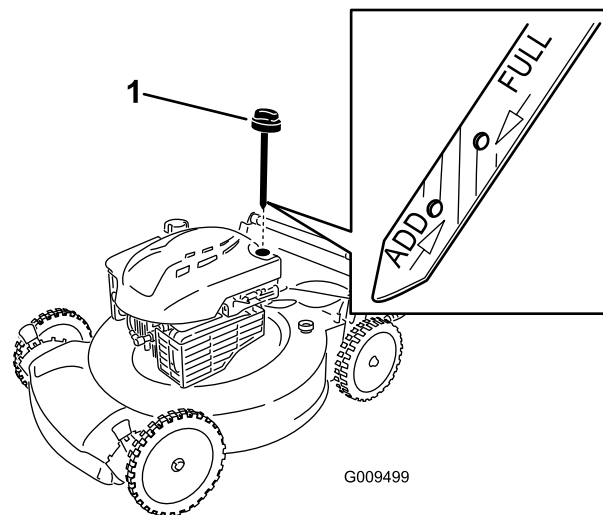

Figure 21
3. Remove the dipstick (Figure 21).
Note: If the oil level is below the **Add** mark on the dipstick, **slowly** pour a small amount of oil into the oil fill tube and repeat steps 7 through 9 until the oil level is at the **Full** mark on the dipstick (Figure 21).